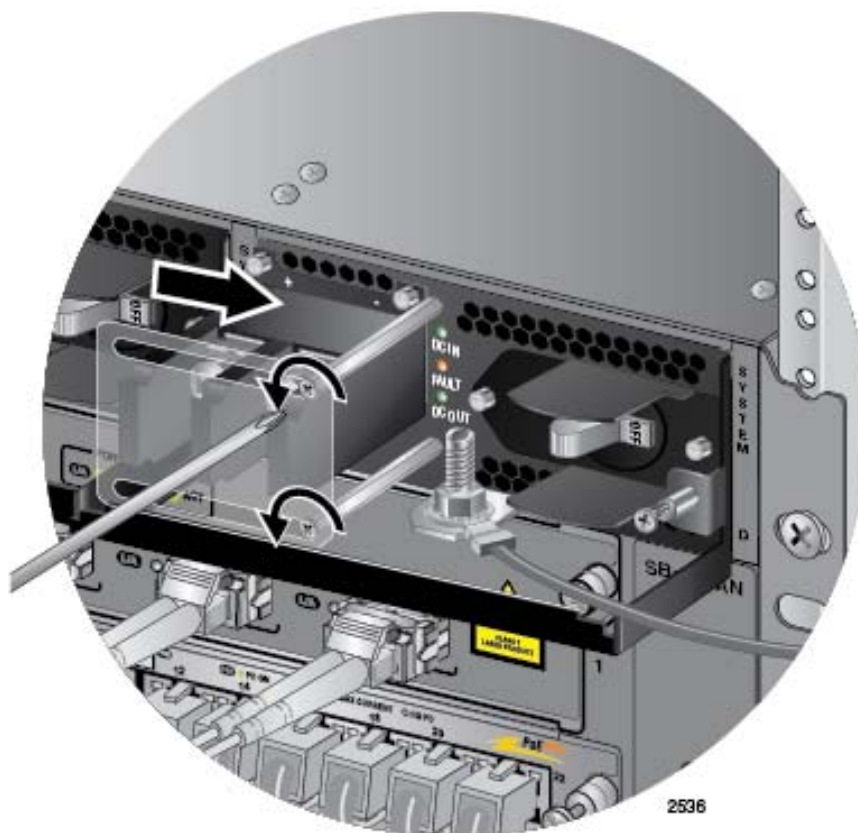

Figure 128. Opening the Plastic Cover
4. Use a #1 Phillips-head screwdriver to loosen the two screws on the plastic cover over the positive and negative terminals on the power supply and slide the cover to the right, as shown in Figure 128 on page 190. You may need to lift the locking handle slightly to access the bottom screw.
3. Use a #1 Phillips-head screwdriver to loosen the two screws on the plastic cover over the positive and negative terminals on the power supply and slide the cover to the right, as shown in Figure 128 on page 190. You may need to lift the locking handle slightly to access the bottom screw.